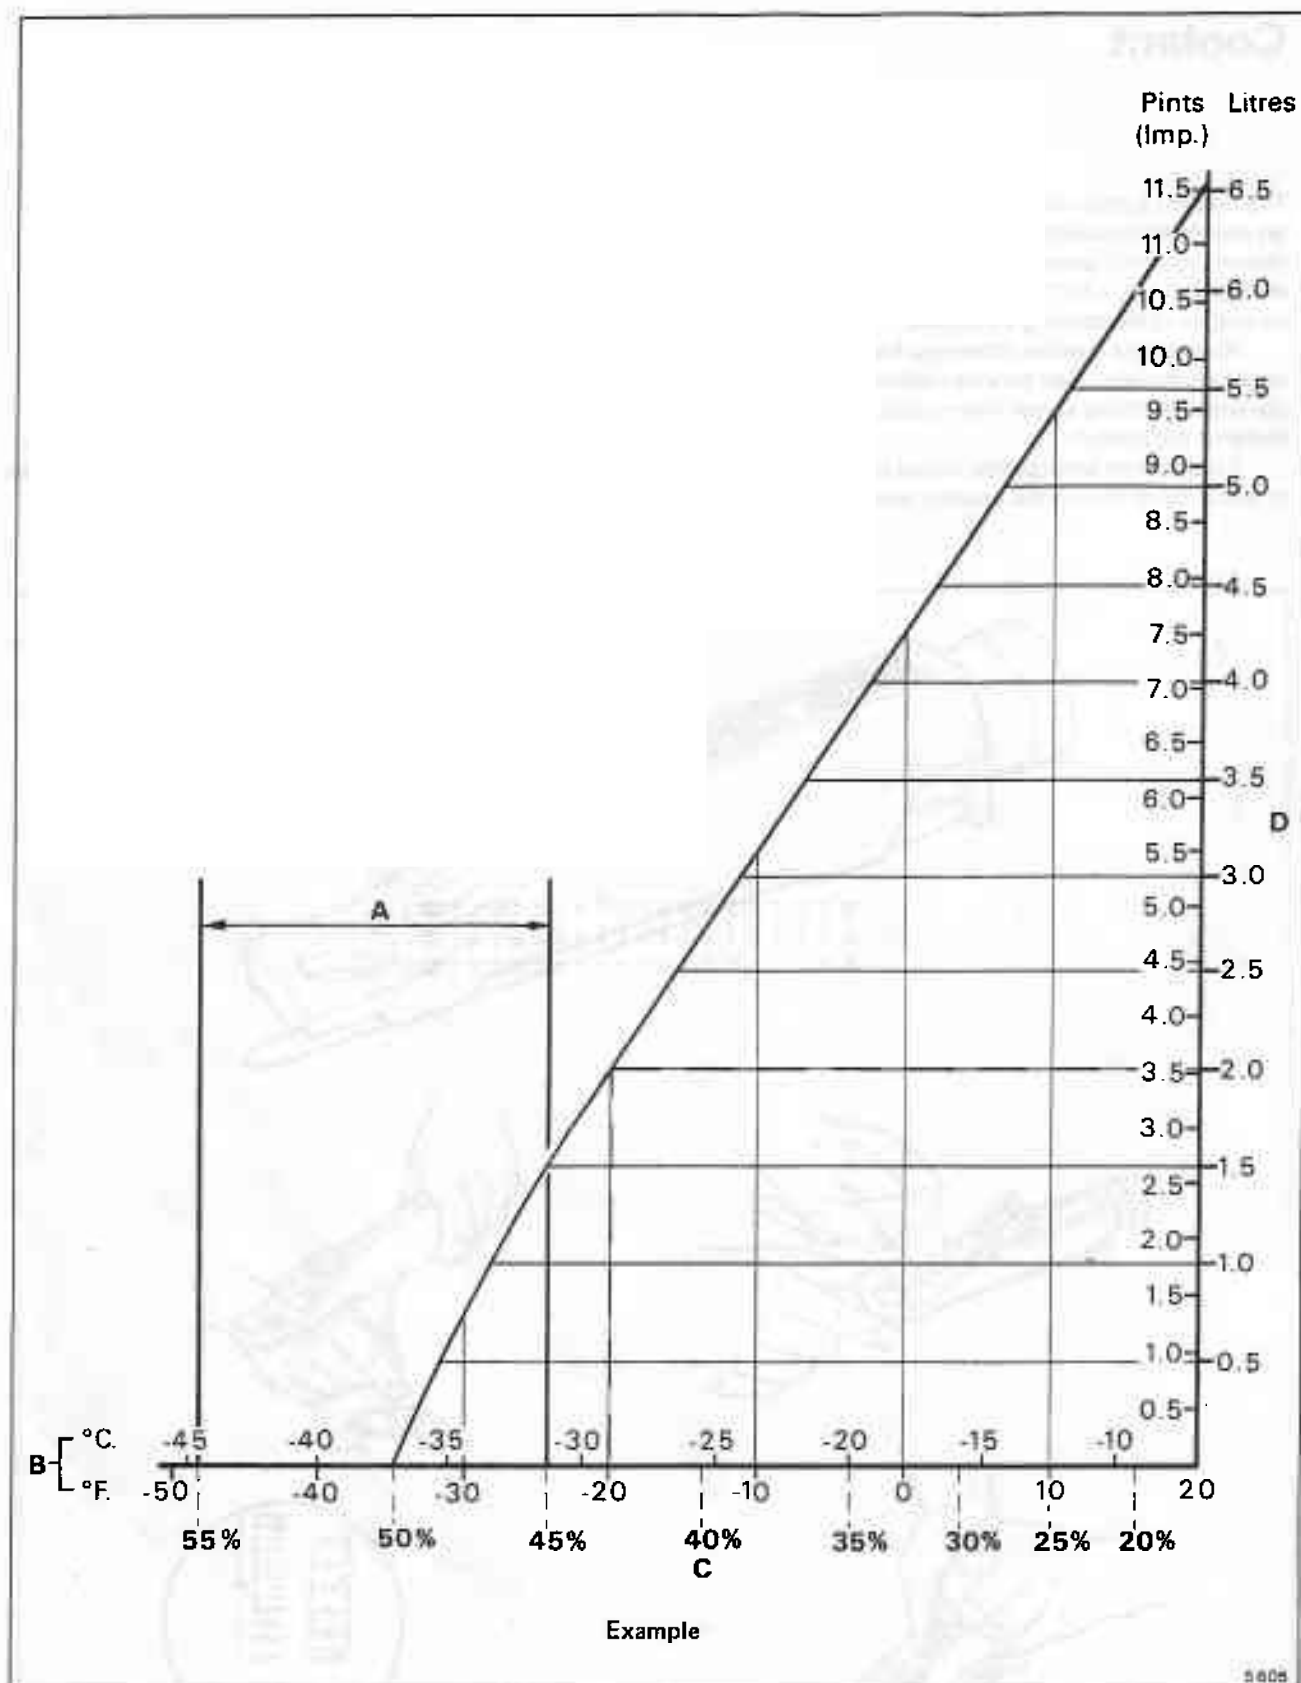

Fig. L3-2 Anti-freeze correction chart to give a 50% solution
11. If the temperature reading is higher (further down on the scale) than -31°C (-24°F) it will be necessary to refer to figure L3-2 and add the appropriate amount of anti-freeze to the system.